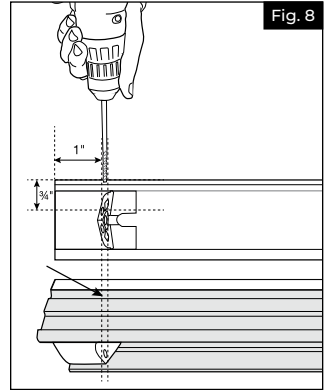

Fig. 8
- b. Align bracket to end of beam. Measure 1" from back of beam on inside side of rail only and secure #6 x $\frac{3}{4}$ " set screws (F) into beam (Fig. 8). This will secure the beam and bracket together. Repeat for top beam.